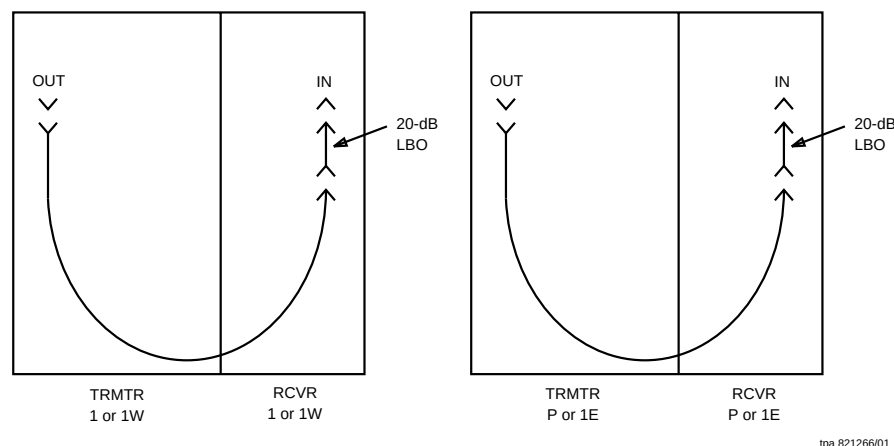

**Figure 1 – Loopback Connections**
2. For each OC-48 line to be looped back, obtain a lightguide jumper (package label FS1E-E-02) and a 20-dB loss lightguide buildout, or equivalents. (It is possible to connect another LBO to an existing LBO to obtain a total of 20-dB provided the LBOs do not physically interfere with the shelf cover when closed.) Table A shows additional buildouts that are available. Table B shows the buildout types that are compatible with different codes of the TRMTR and cks. Figure 1 shows optical line loopback connections.